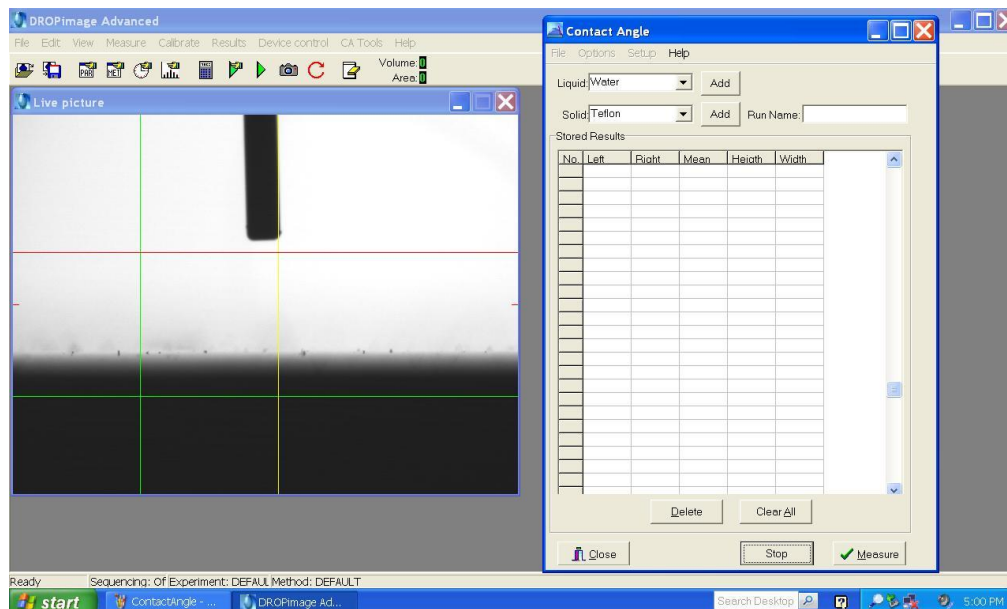

Figure 3 Contact Angle Window with liquid and measurements
7. Hit **Start** in the **Contact Angle** window. Three lines will appear in the picture. Fig. 3